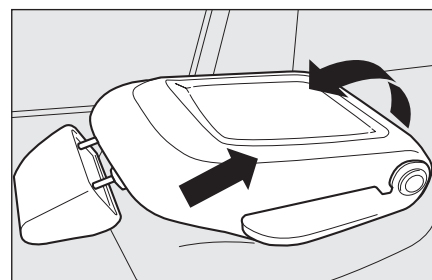

fig. 48
- ☐ arrange the passenger's seat in table position **fig. 48** (see "Arranging the seat in table position" paragraph in this chapter);